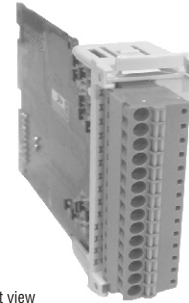

Figure 1.1 : Front view
- FL-SC-DI14 card as shown in Figure 1.1 is used as a plug-in module in Flexys series and EXP FLEX 2M, and not as an independent module.